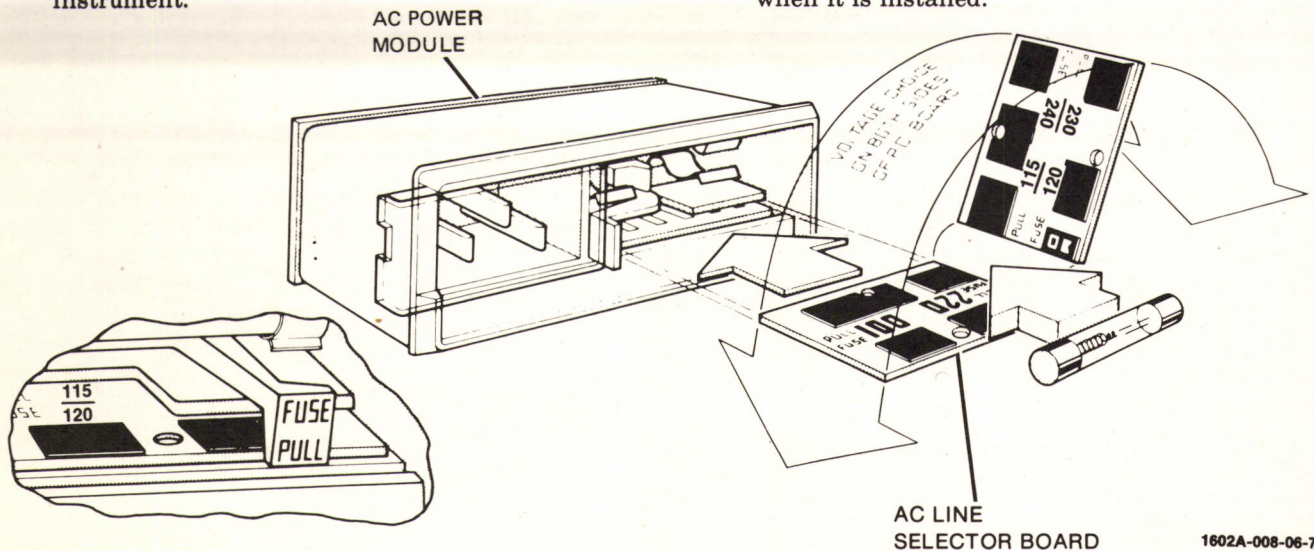

Figure 2-1. Line Voltage Selection
- e. Position AC Line Selector Board for proper operating voltage (see figure 2-1).